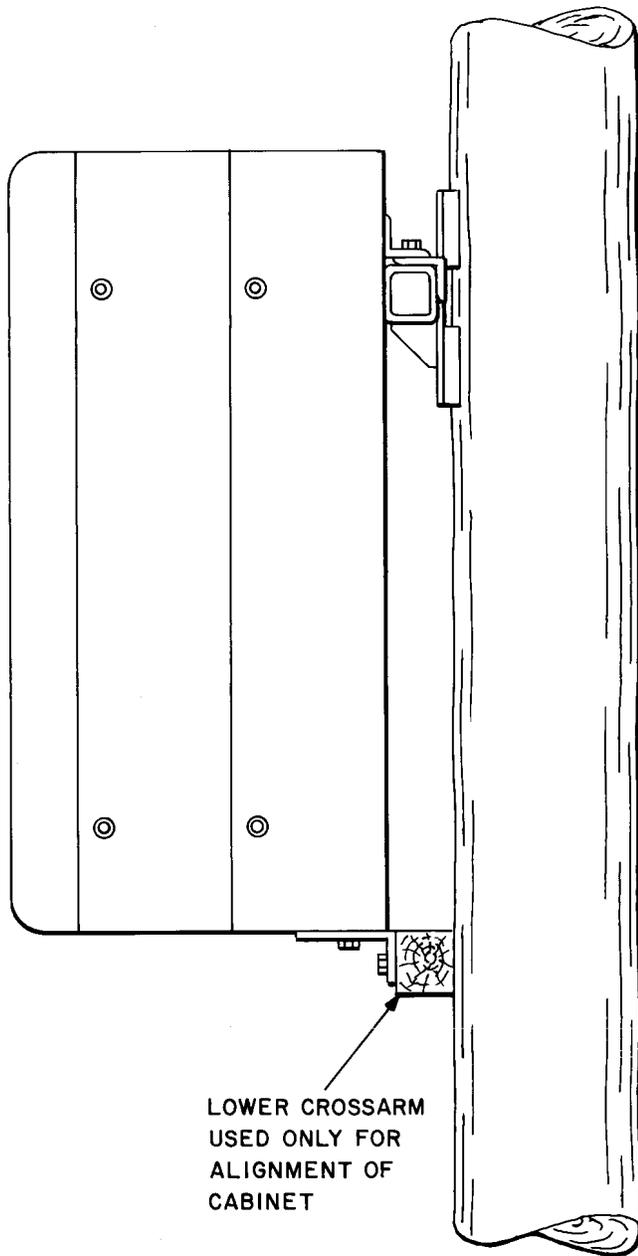

Fig. 18—Mounting RT at Metal Crossarm Installation
6.16 Remove the 2-1/2 by 10-inch channel hanger. Slowly raise the cabinet to its mounting location, guiding it with handlines. Stop the winch when the mounting angle is above the upper crossarm (Fig. 18). Slowly lower the cabinet until it hangs on the upper crossarm. When hanging the RT cabinets, the bolts that attach the angle brackets to the horizontal angle iron across the back of the cabinet should register to the crossarm "index" holes so marked.
6.17 Attach the lower mounting brackets to the bottom of the cabinet using the slotted holes. Orient the brackets downward as shown in Fig. 18. Leave the bolts fingertight.